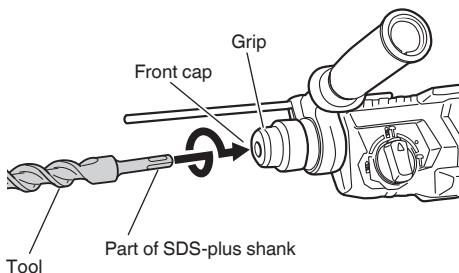

Fig. 1
4. Mounting the tool (Fig. 1)
(1) Clean the shank portion of the tool.
(2) Insert the tool in a twisting manner into the hole of front cap until it latches itself (Fig. 1).